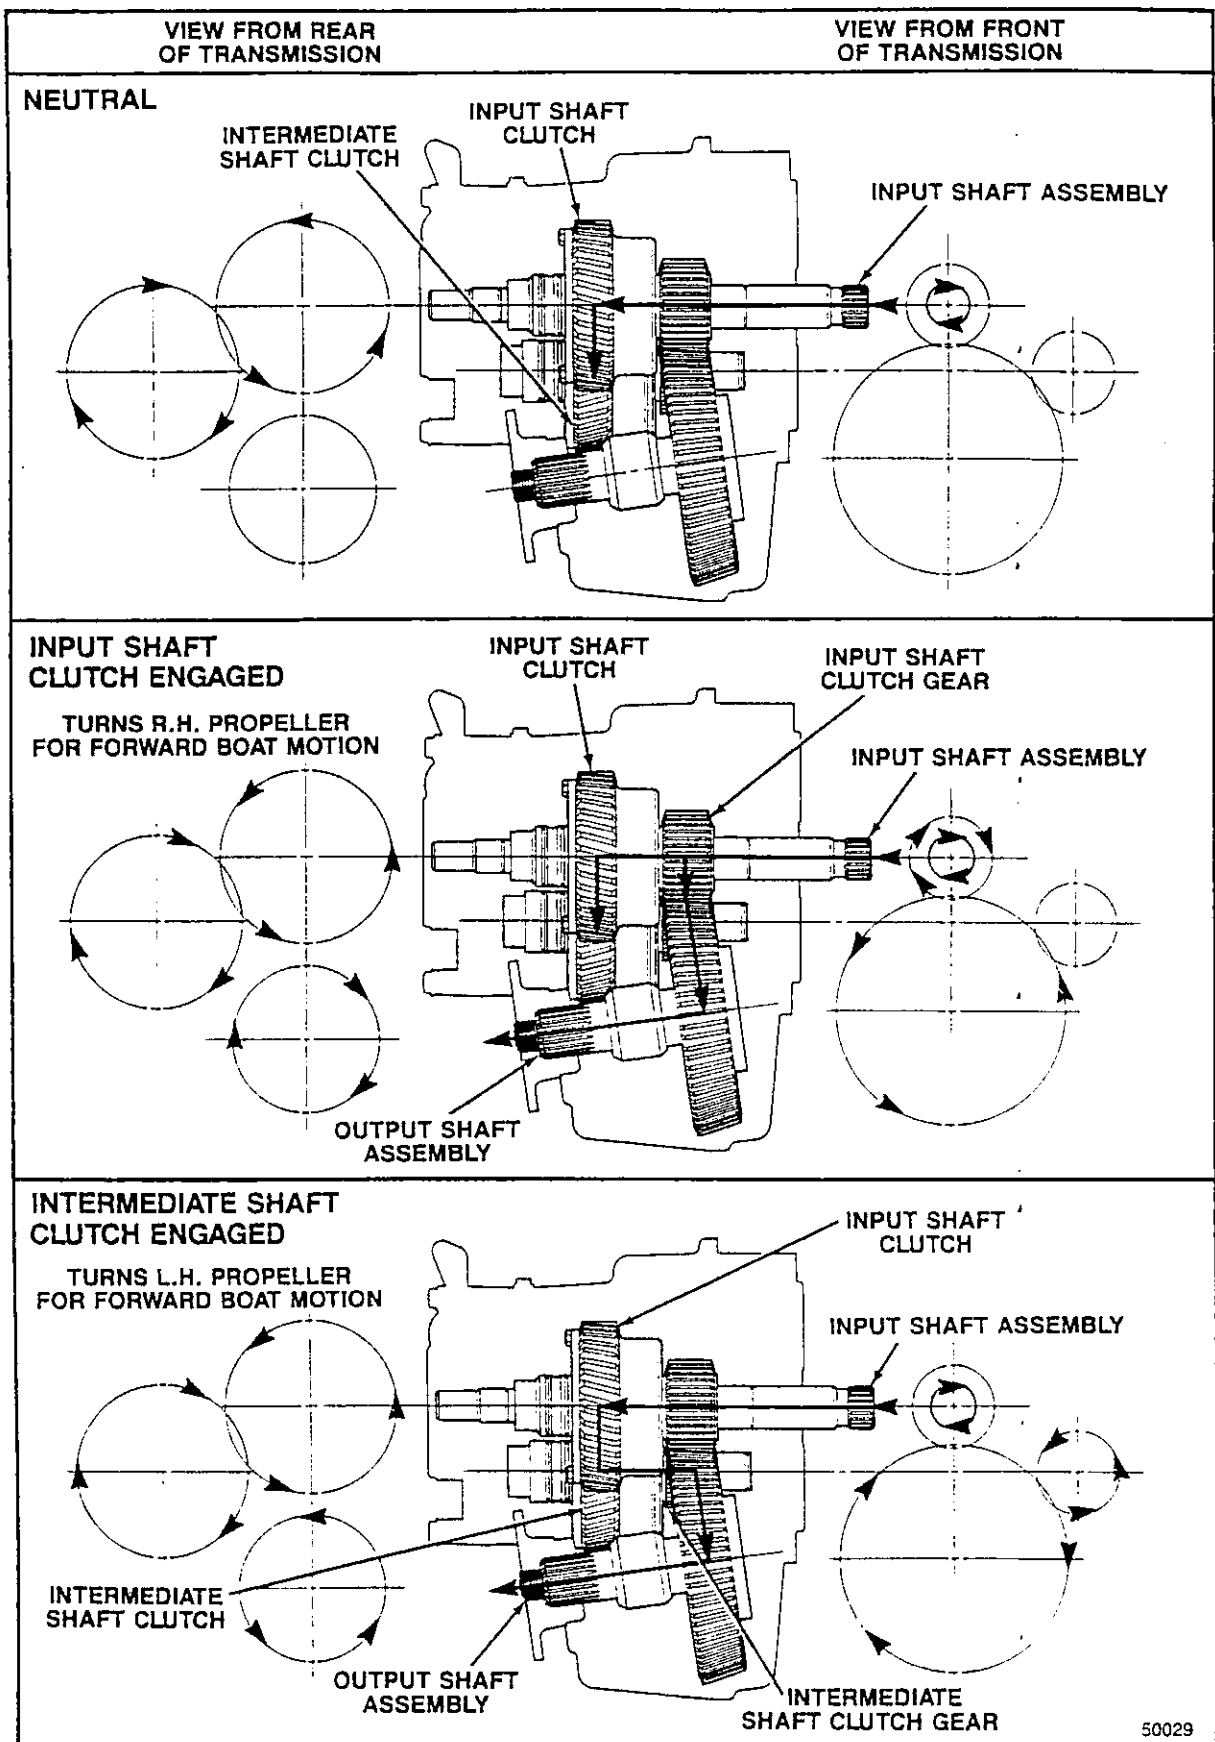

Figure 1-2. Series 5000 Transmission Operation
**1-12. DESCRIPTION OF OPERATION.** The input shaft assembly is directly geared to the intermediate shaft assembly (see figure 1-2). Each of these shaft assemblies has a hydraulic clutch that engages a clutch gear. Each clutch gear “floats” on needle bearings on its respective shaft and engages the output shaft gear. Thus, with the transmission in neutral and the engine running, the input and intermediate shafts rotate in opposite directions with the output shaft stationary. When the control lever is moved to one of the drive positions, hydraulic pressure from the pump is directed to the clutch piston on either the input or intermediate shaft assembly. This engages the clutch on that shaft assembly and causes the clutch gear to turn the output shaft gear in one direction. When the control lever is returned to neutral, hydraulic pressure is released, springs relax the clutch, and the clutch gear “floats” on the needle bearings with the output shaft stationary. When the control lever is moved in the other direction, the other shaft clutch engages the clutch gear to turn the output shaft in the opposite direction.